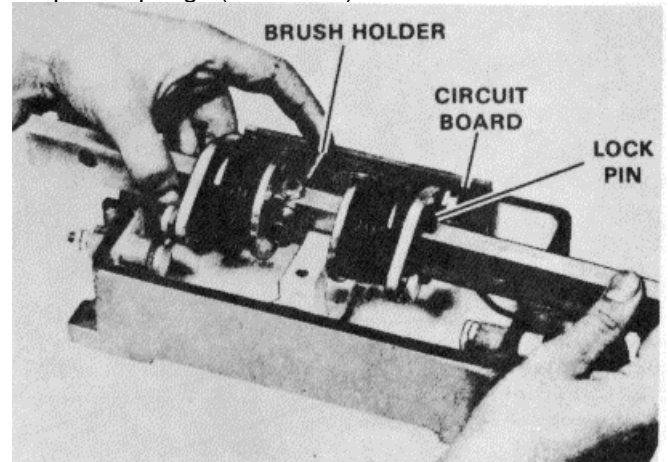

Figure 13B-10. Controller Bar Installation
4. Place spacers (30) on the back side of circuit board (29) and place the circuit board in controller case (41). Secure the board in place with lockwashers (28) and capscrews (27). Do not tighten capscrews (27) to the point of cracking circuit board (29).
5. Install brush (23) into the rear of brush holder (19). Then install cap (18) and seal the end with a small amount of wax.
6. Install the assembled shaft into controller case (41) as shown in Figure 13B-10. Remove the nails used to compress springs (11 and 13).